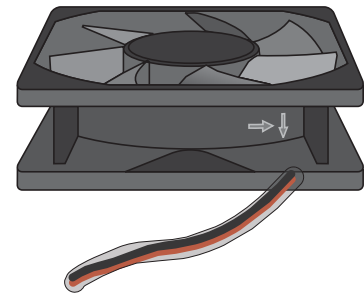

Figure 3. Air flow indication on the new fan.
11. The new fan has arrow markings, located near the wires, that indicate the direction of rotation and of air flow (Figure 3). It is important that the fan be installed so that it will blow air toward the front of the amp.